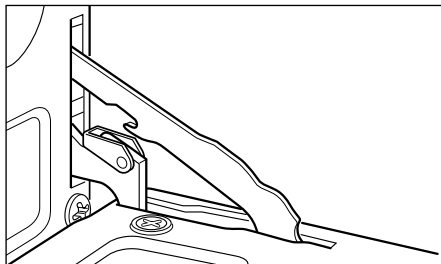
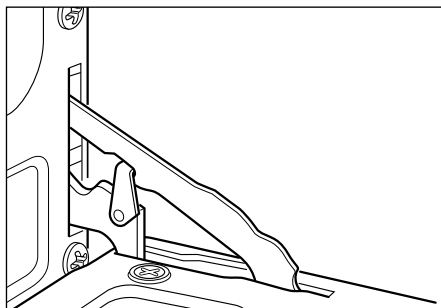

Fig.28a
Fig.28b
- Hook the swivel retainers of the rh and lh hinges (Fig. 28a) onto the metal bar above them (Fig. 28b).